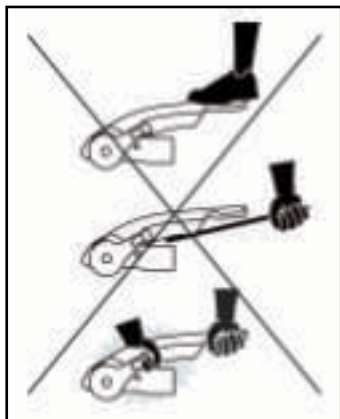

FIG. 6.
2. Press the stabiliser lever down by hand only, DO NOT use your foot or an extension bar: this will damage the components (Fig. 6).
3. When opening or closing the stabiliser lever, please ensure your hand does not touch the coupling handle to avoid injury (Fig. 6.)